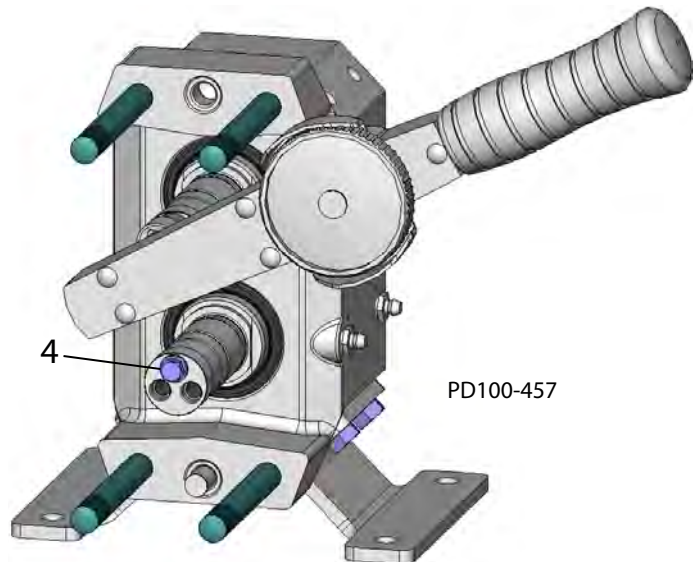

Figure 50 - Check Rolling Torque
3. Install one lug screw (Figure 50, item 4) into one of the tapped holes in each of the shafts and check the rolling torque of each shaft assembly with a torque wrench.